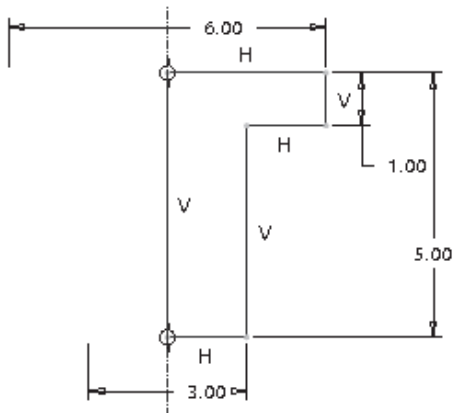

Figure 8-95 Sketch with dimensions and constraints for the counterbore hole
- e. Create the counterbore hole on the third and forth feature, refer to Figures 8-95 and 8-96.
3. Choose the **Activates Sketcher to create section** button; the system takes you to the sketcher environment. Sketch the section for the counterbore hole, as shown in Figure 8-95. Sketch a center line, apply constraints, and diametrically dimension the entities.